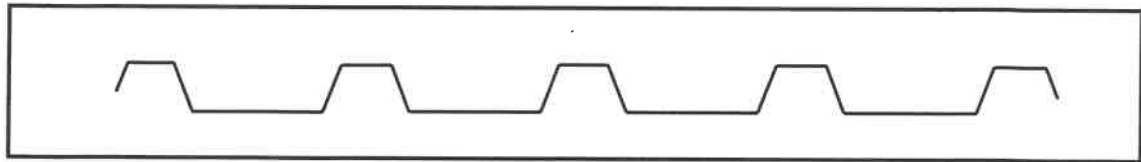

FIGURE 4.7
4.7 FIGURE 4.7 below shows the profile of a metal roof sheet.